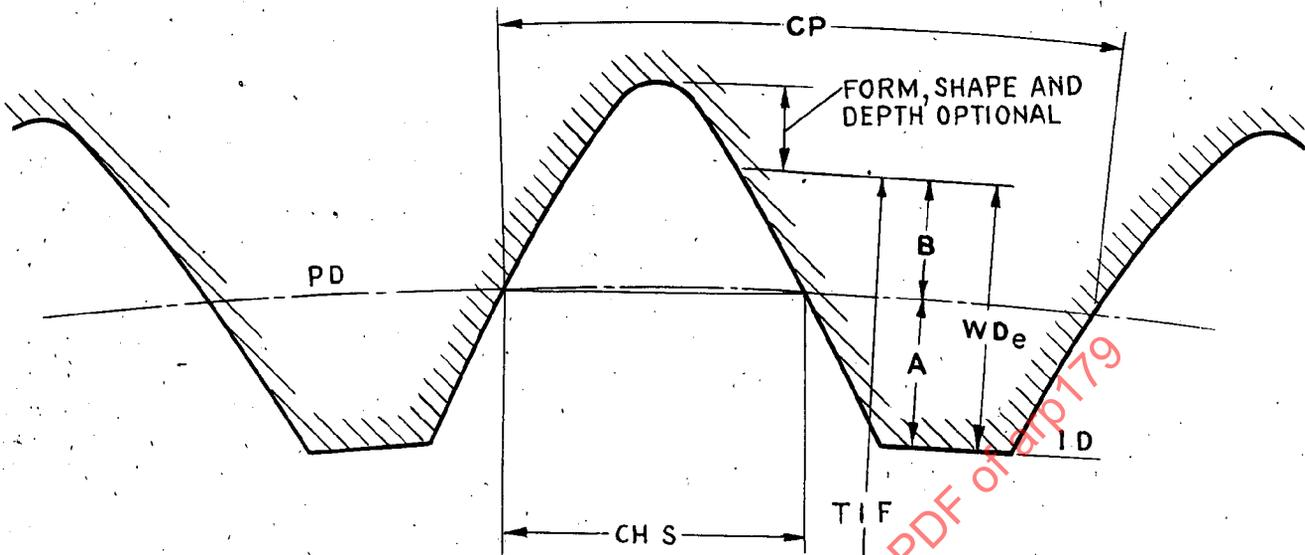

FIG 1
- A. Figure 1 shows a tooth diagram of a ring gage. The various elements of the tooth are illustrated and defined.